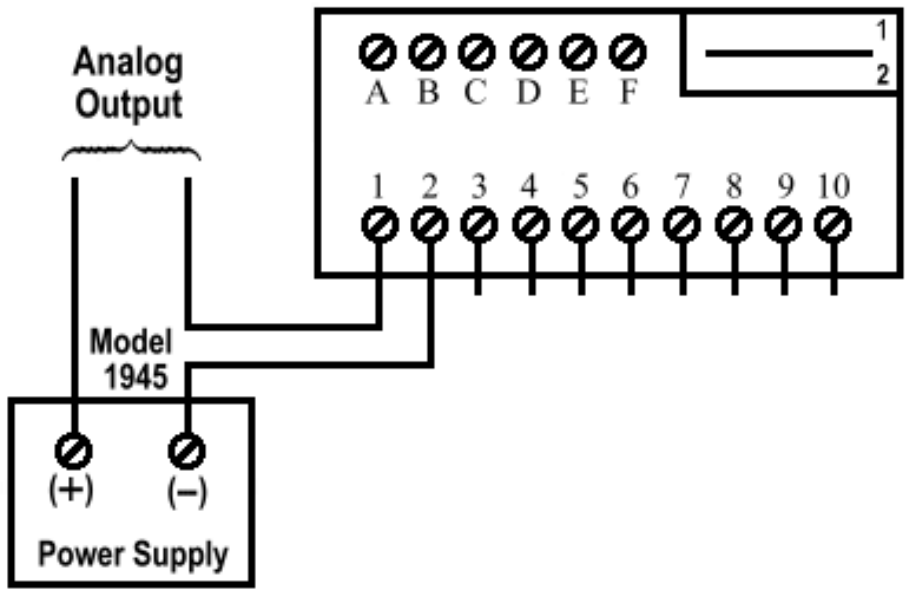

Figure 1.4 Field Wiring Diagram for 4-20mA Analog Output
- 3) Models with 4-20 mA analog output options must have an EXTERNAL LOOP POWER SOURCE of 10.0 VDC minimum, 24.0 VDC maximum, in series with the current loop. The INCON Model 1945 Power Supply is recommended for these installations, (See Figure 1.4).